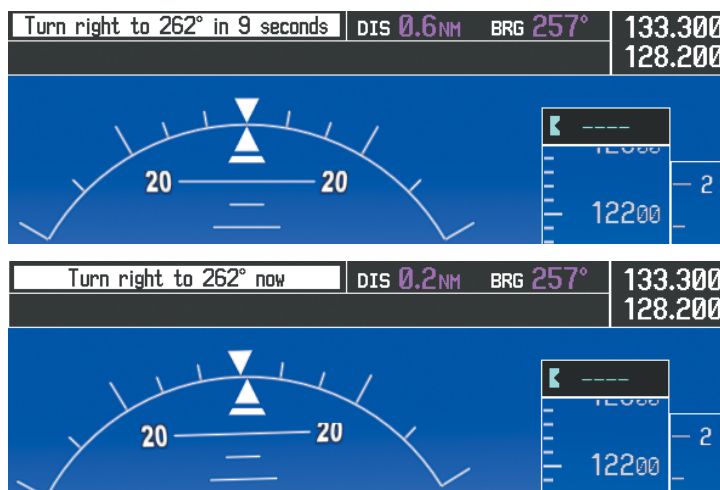

Figure 5-122 Turn to Intercept V244
- 8) At SLN, Victor Airway 244 (V244) is intercepted. Turn prompts are displayed in the PFD Navigation Status Box as seen in Figure 5-122.